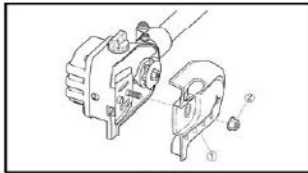

Fig. 14
1. Remove chain bar hex nut (2) Fig. 14
2. Remove the side case (1). Fig. 14